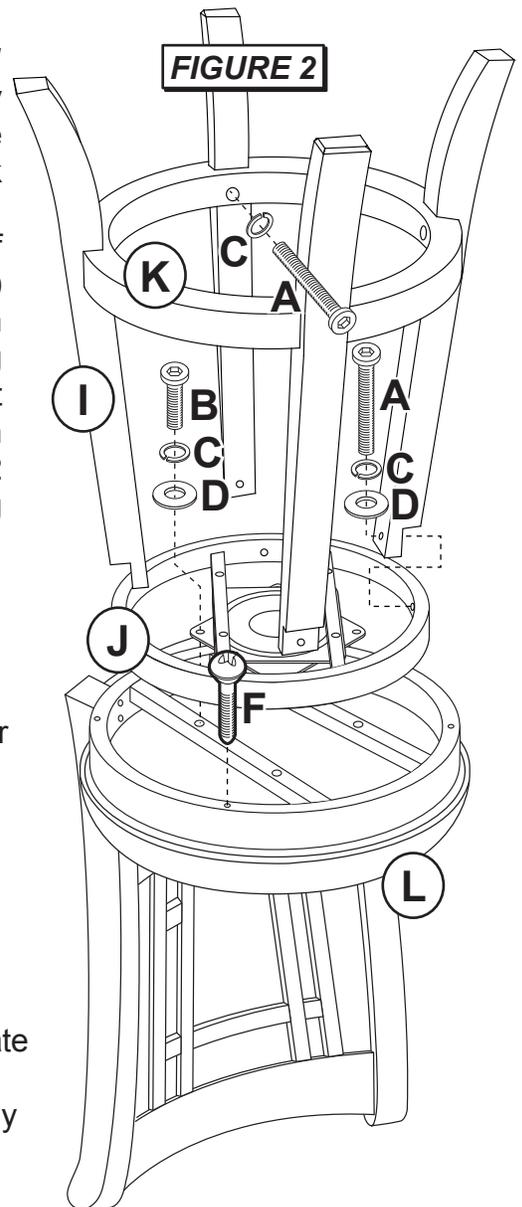

FIGURE 2
STEP 2 - Figure 2
STEP 3 - Figure 2
STEP 4 - Figure 2
STEP 5 - Figure 2